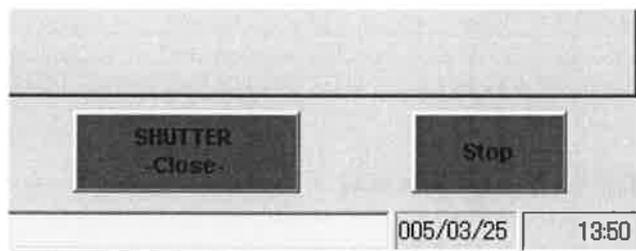
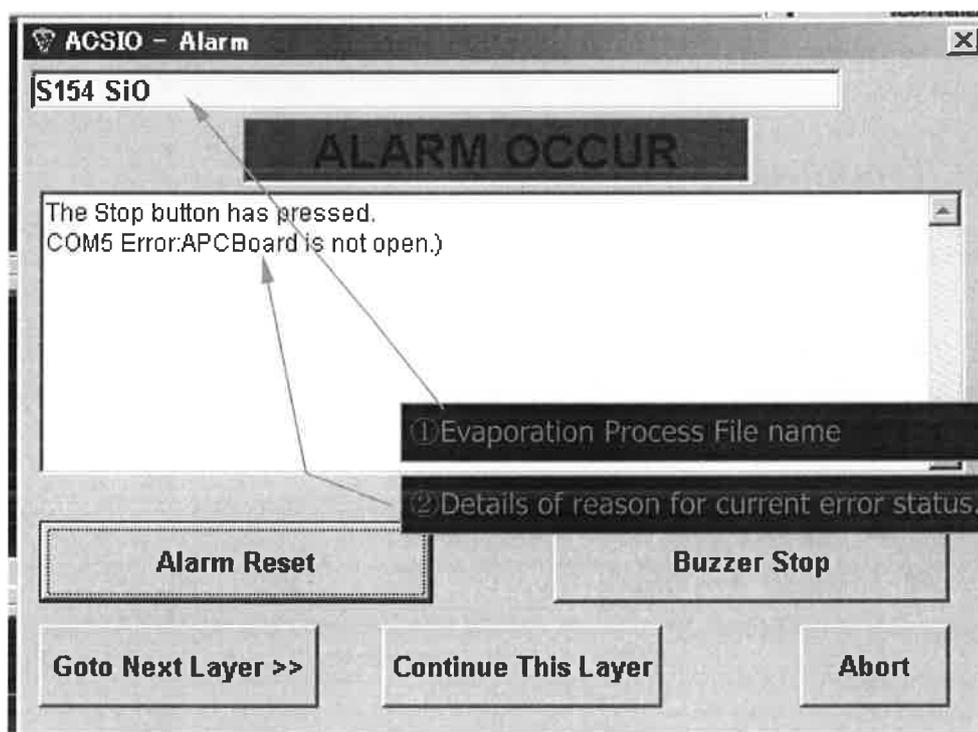

Fig. 65 Evaporation – Command Section
Fig. 72 Alarm User Interface
As shown in Fig. 65, there are only two command buttons.
Whenever evaporation process is stopped due to abnormality, error or user interruption (Fig. 65 Stop button), the following Fig. 72 will pop up:
To restore from abnormal state (shown as Fig. 72), follow these operations:
2. Refer to ② in Fig. 72 for detailed description of error, and do what is necessary to recover from errors;
For Evaporation Process, Evaporation Process File name will be shown as in Fig. 72's ①.